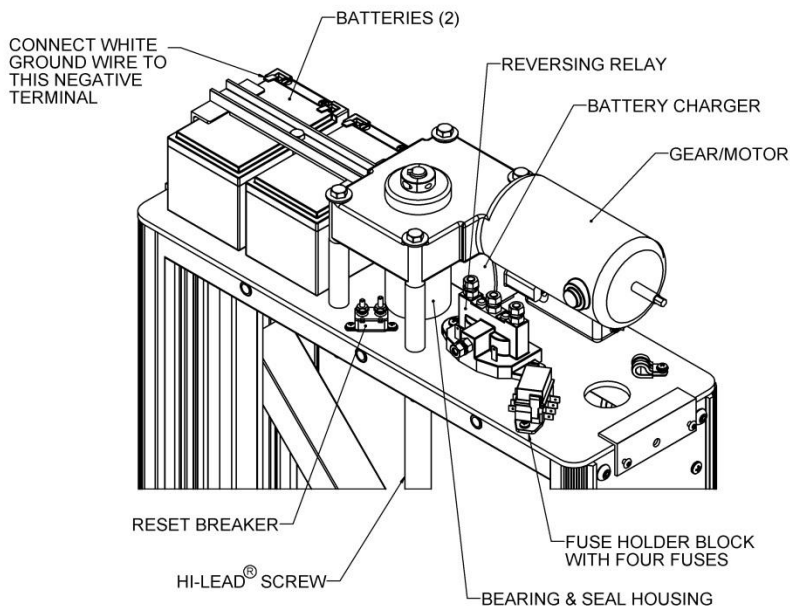

FIG. 4.14
24. The VPL is shipped with the white wire which connects to the negative battery terminal disconnected. Without standing on the platform, locate and reconnect the wire (there should only be one open terminal on the batteries, see FIG. 4.14. The VPL should not operate when the wire is connected to the battery as long as the keyed switch is the Power “OFF” position. However, in case of unexpected operation, be sure you are positioned to prevent injury in case the VPL operates accidentally when the wire is connected.